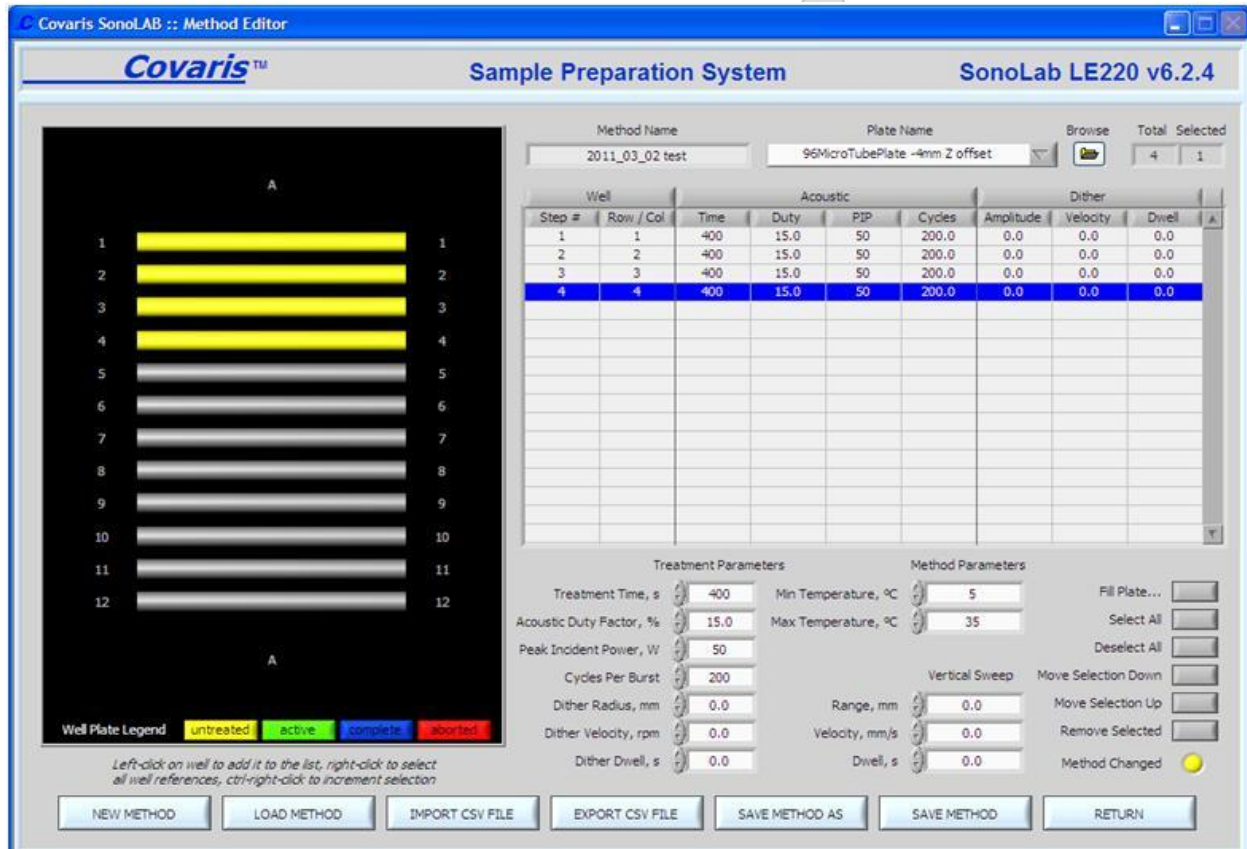

Figure 7. The method editor panel, used for specifying methods and plate types.
- 6.2. Once the sample plate is loaded, click “**METHOD EDITOR**” button as shown Fig 1. This will result in the window shown in Fig 7 below.